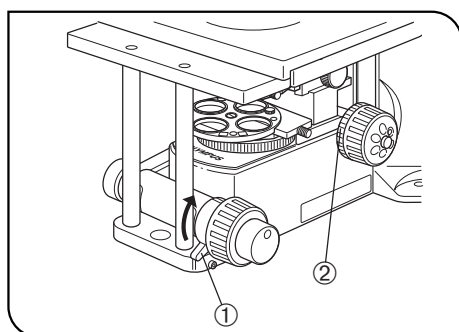

Fig. 5
(Fig. 5)
★ Do not adjust the coarse adjustment knob rotation tension adjustment ring (② in Fig. 5) because the belt interlocking of the ring with the coarse adjustment knob on the front has been adjusted at the factory. If the tension is varied, the accuracy of the pre-focusing lever will deteriorate.